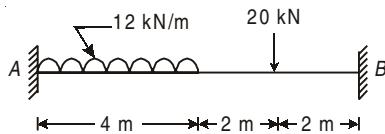

Fig. 4.40
- 4.17.** Analysis the fixed beam as shown in Fig. 4.40.